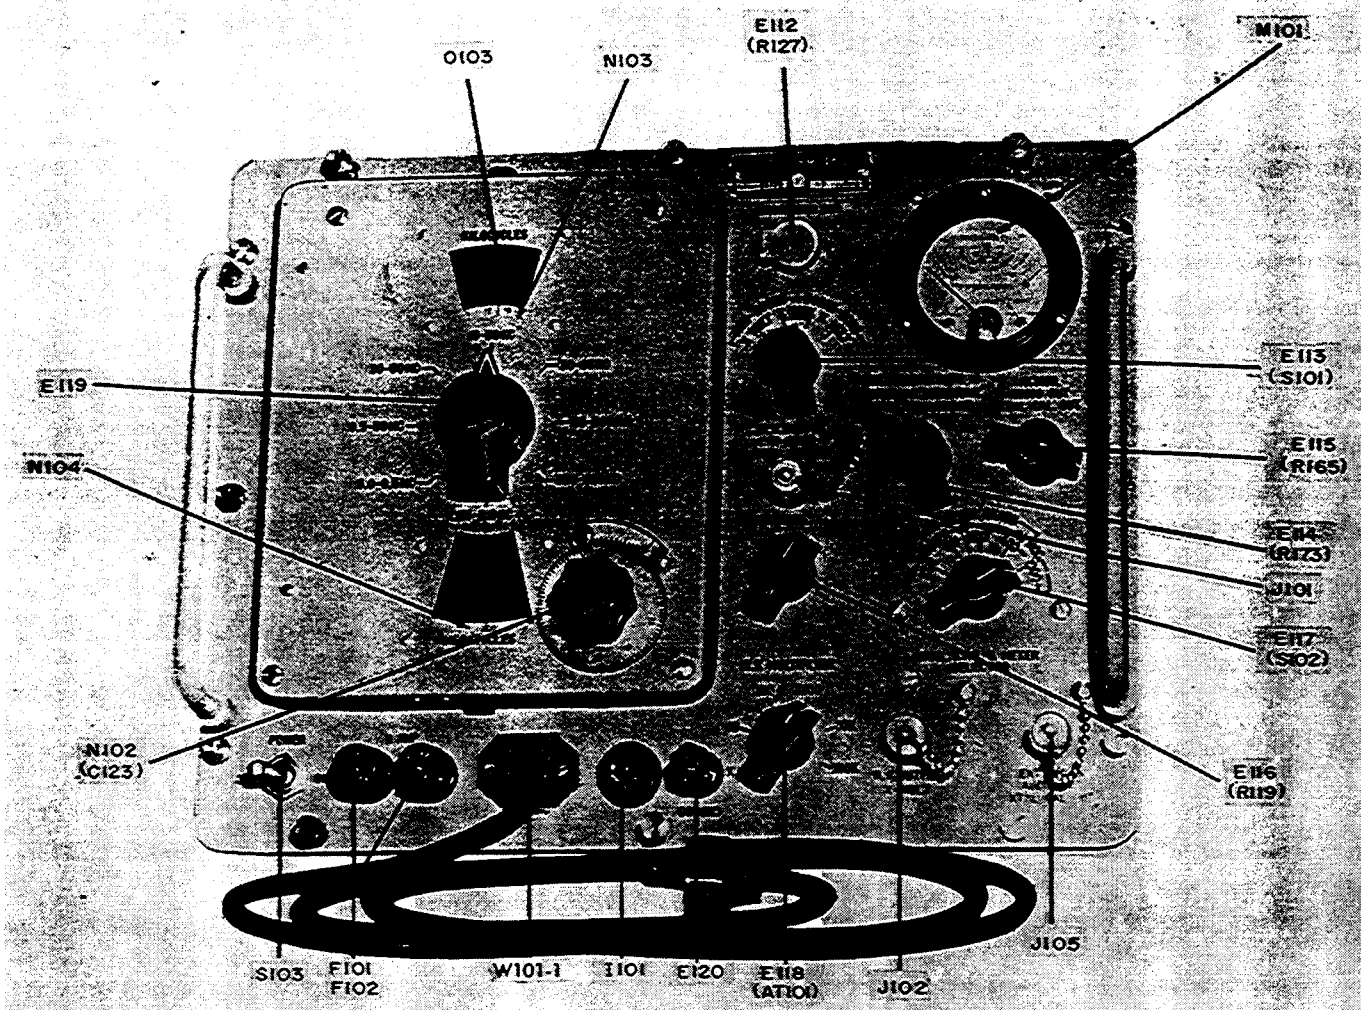

Figure 4-1. RF Signal Generator SG-85/URM-25D
*c.* The following preliminary settings and checks are required prior to placing the equipment in operation (Figure 4-1).
(1) Turn POWER switch (S103) to OFF position.
(2) Turn Carrier control (E114) and AUDIO OUTPUT control (E115) to the fully counterclockwise positions.
(3) Insert end of power cable W101-1 into the power source of 115 volt AC.